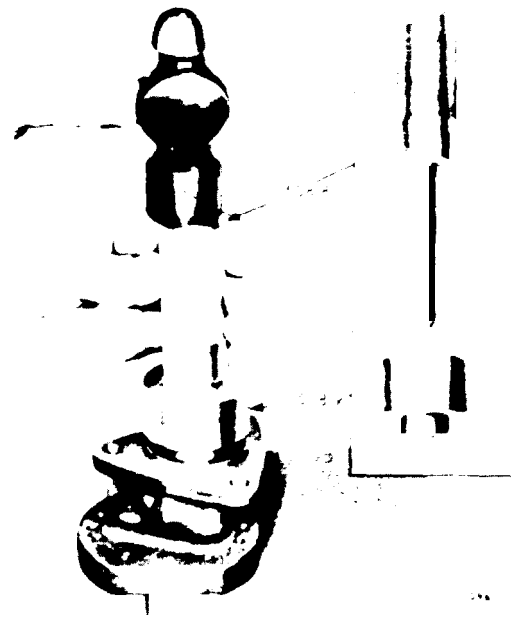

Figure 11C-57. Installing Outer Oil Seal
4. Lubricate the pump shaft and insert the square end of the shaft into the opening at the gear side of the pump body and through the oil seals as shown in Figure 11C-58 on page 11C-33.